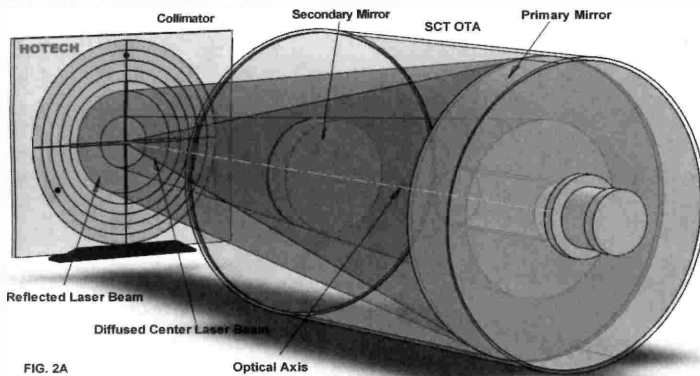
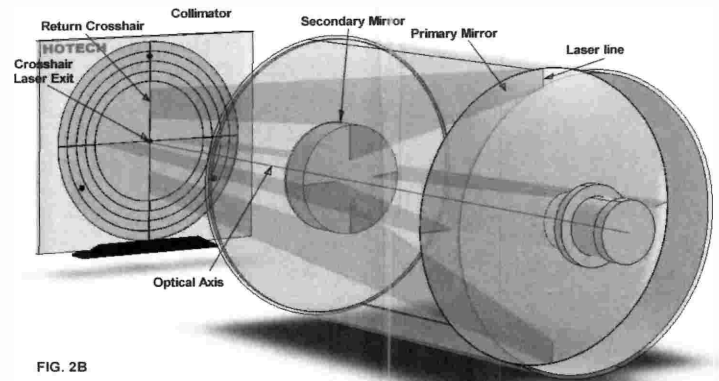

FIG. 2A
FIG. 2B
To ensure accurate aiming, you use the diffused crosshair projected from the center of the collimator as a guide to optically center aim the primary mirror back to the center of the collimator (FIG. 2A), and center aim the return crosshair reflected from the primary mirror to square up the collimator aiming (FIG. 2B). Please expect to spend most time on these aiming adjustments. Be patient and careful; the results will be well worth the trouble!
3. Aim telescope at the collimator (FIG. 2A)
4. Aim collimator at the telescope (FIG. 2B)